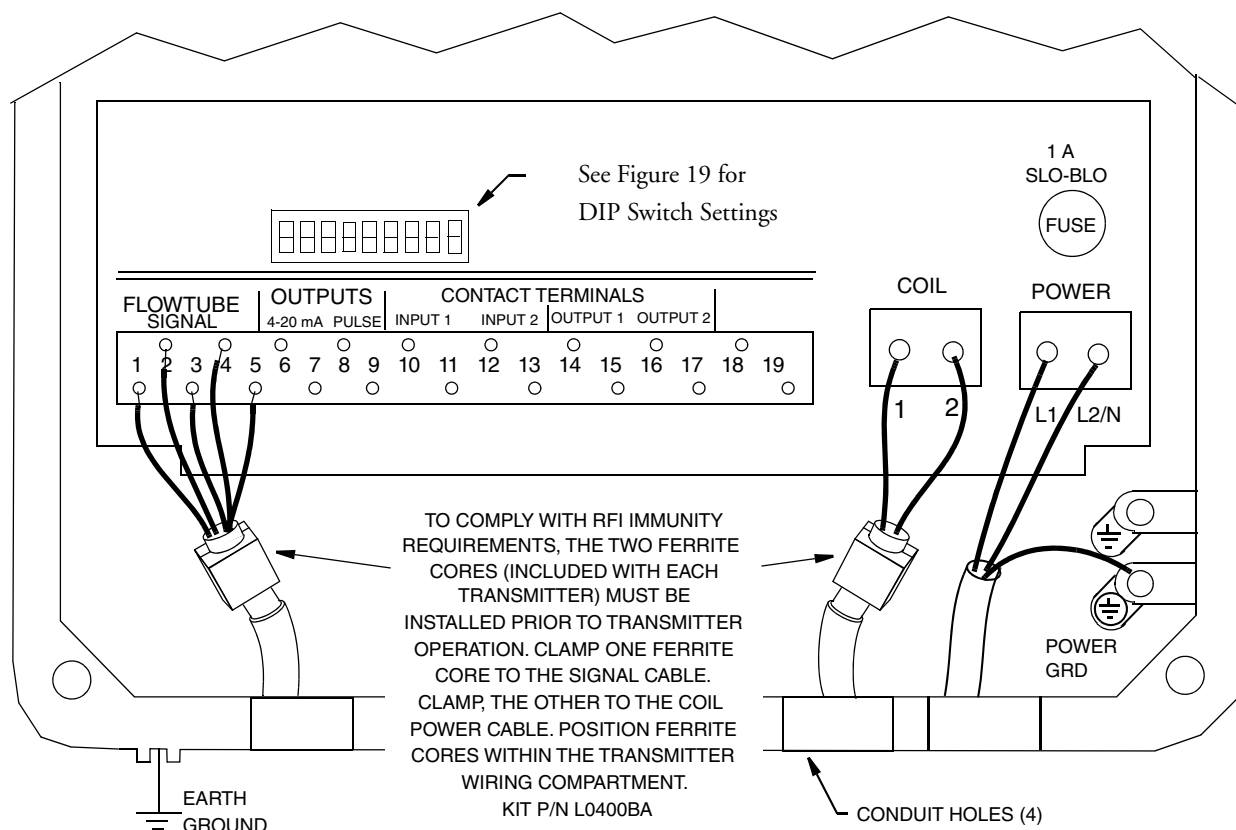
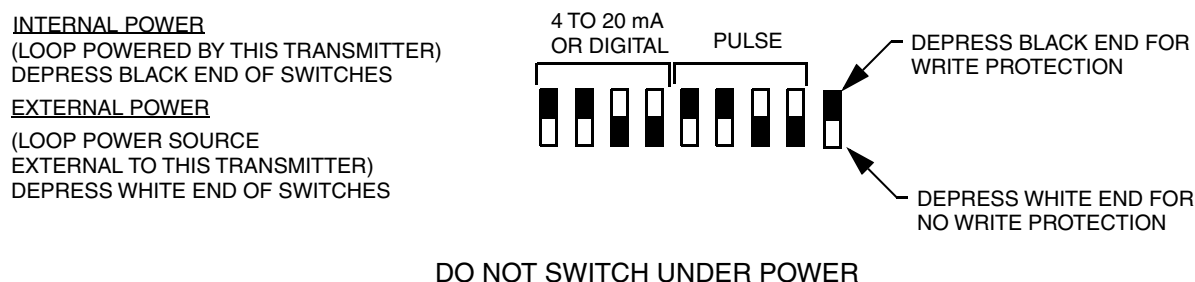
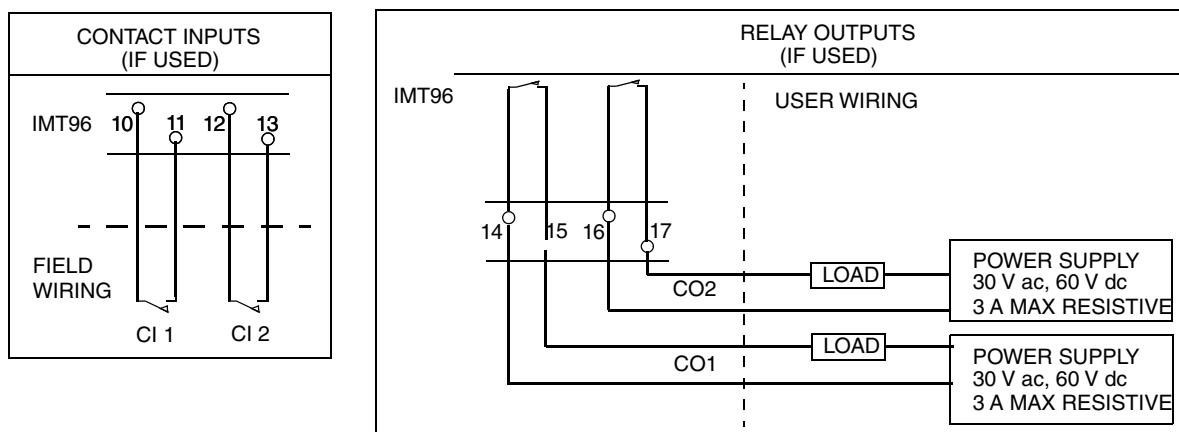

Figure 17. Wiring of IMT96 Transmitter (Signal Cable)
Figure 19. Output Loop Power DIP Switch Settings
Figure 25. Contact Input and Relay Output Wiring
(b) Transmitter terminals are shown in Figures 17 and 19.
11. Connect the signal wires from the flowtube to the transmitter signal terminals as shown in Figure 17 and Table 6.
12. Connect the coil-drive wires to the transmitter coil terminals as shown in Figure 17. Tighten the optional gland compression nuts, if applicable.
Transmitter case must be grounded in accordance with local practice. The locations of the ground terminals are shown in Figures 17 and 18.
Internal or external power for the IMT96 output signals is switch selectable. The switches have been factory set as defined by the model code of the transmitter but the setting can be changed. There is a group of nine switches that control internal or external power and the write protect feature (see Figures 17 or 18). The first four of these set the analog and digital loop power. The second group of four control the pulse loop output power. A ninth switch controls the write protect function. Power to the transmitter must be off when changing switch settings and the switches must be set to one of the patterns shown in Figure 19.
The write protection DIP switch allows or prevents anyone from changing the configuration of the transmitter or resetting the totalizer. This feature is usually used in custody transfer applications or when, for any other reason, you want to ensure that the configuration and or totals are not changed. Refer to Figure 19 for switch position. The switch usually has the white end depressed (factory default position) which disables this feature. Depressing the black end of the switch engages the protection.
1. Internal power is set by DIP switches. Refer to Figure 19 and to verify setting or to change to external power.
1. External power is set by DIP switches. Refer to Figure 19 to verify or to change to internal power.
Locations of pulse output terminals are shown in Figure 17. Wiring to these terminals is shown in Figure 25.
Internal or external power is set by DIP switches. Refer to Figure 19 to verify or change setting.
Locations of the contact input and relay output terminals are shown in Figure 17. Wiring to these terminals is shown in Figure 25.